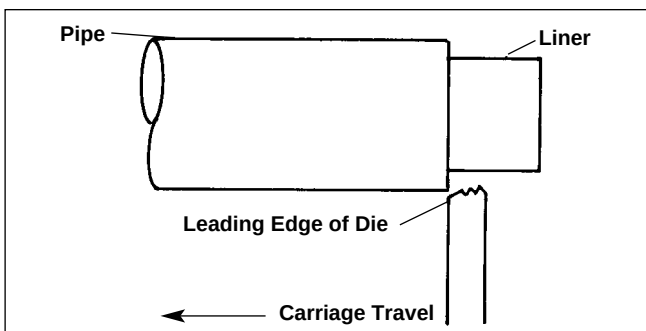

Figure 21 – Position Leading Edge of Chaser Flush with Pipe
5. Move carriage handwheel towards pipe until leading edge of die is flush with pipe. (Figure 21)